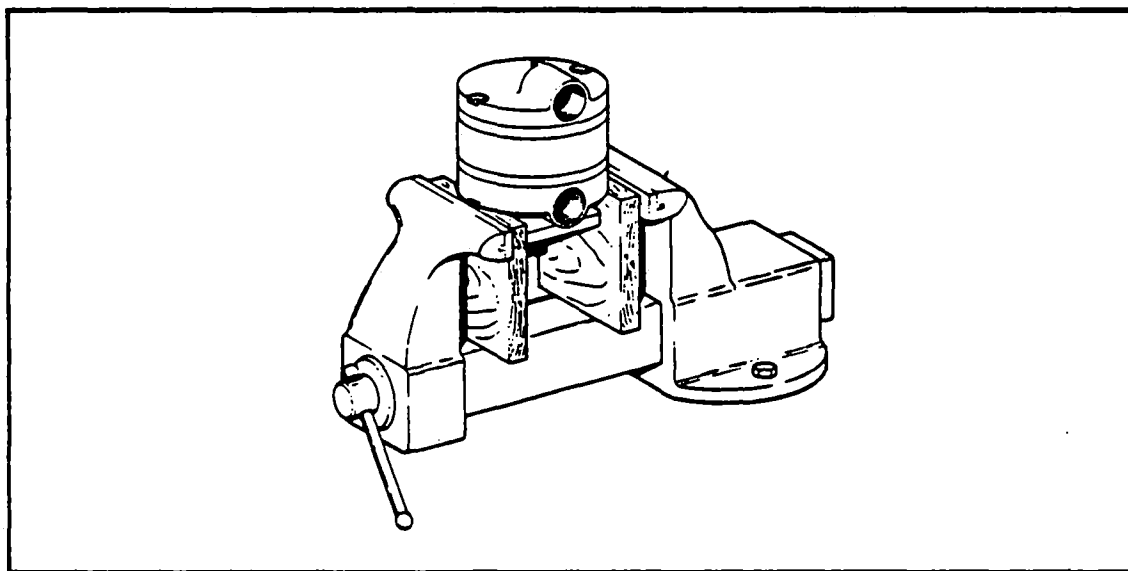

Figure 10-3a. Securing Pump
2. The pump square mounting flange must be held between the wood blocks at right angles to the vise jaws. (Refer to Figure 10-3a.)